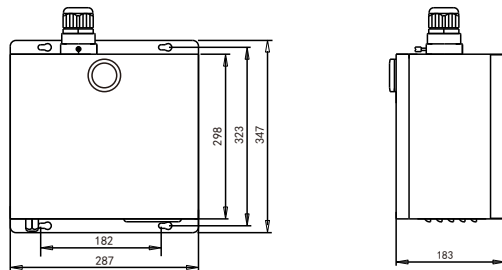

Fig. 1
2. Installation dimension of light engine (see Fig.1):